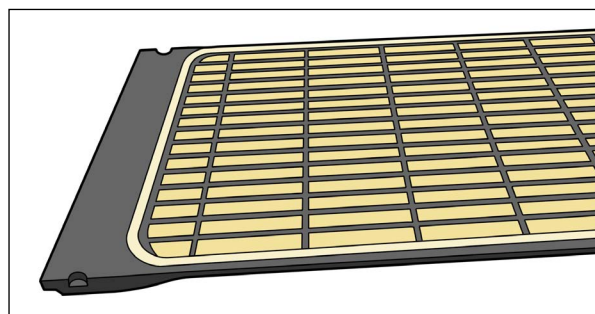

Fig. 2
4. Place several pieces of tape along the edge to affix the film to the surface of the DoseMax (Fig. 2).